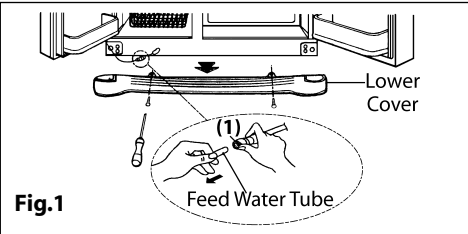

Fig.1
- * Pull out the feed water tube, while pressing area (1) indicated in Fig.1